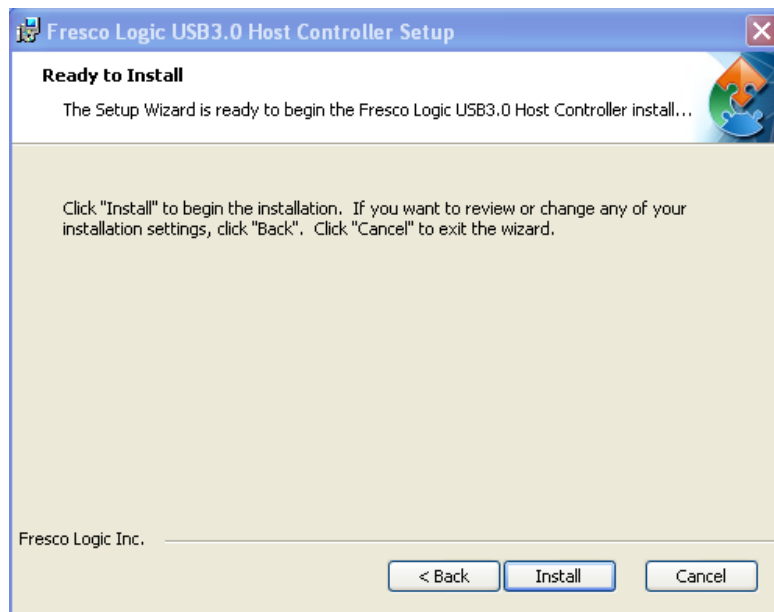

Figure 6-32: USB 3.0 Driver Choose Install Location
Step 8: The program is ready to install (**Figure 6-32**).